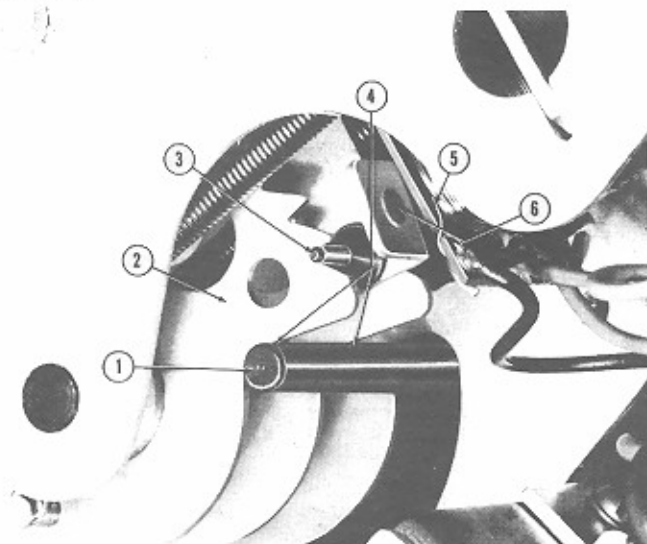

Fig. 13. COIN REGISTER MECHANISM - ADJUSTMENTS
(1) When the studs, on the lower end of the two "lever, stud, and hub" assemblies, are engaged with the first tooth of their respective accumulator wheels, as shown in Figure 13, the "driver pin" of the cancel wheel should rest squarely against the lower edge of both accumulator wheels. Should this condition not exist examine the unit for bent pins or sprung frame. Correction should be made before proceeding with adjustments.